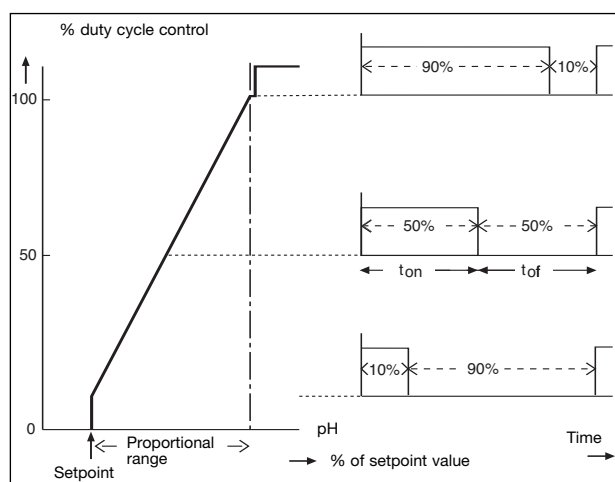

Fig. 5-3.
*PER.	The time period of the overall pulse control cycle (one ON and one OFF period). See fig. 5-3.